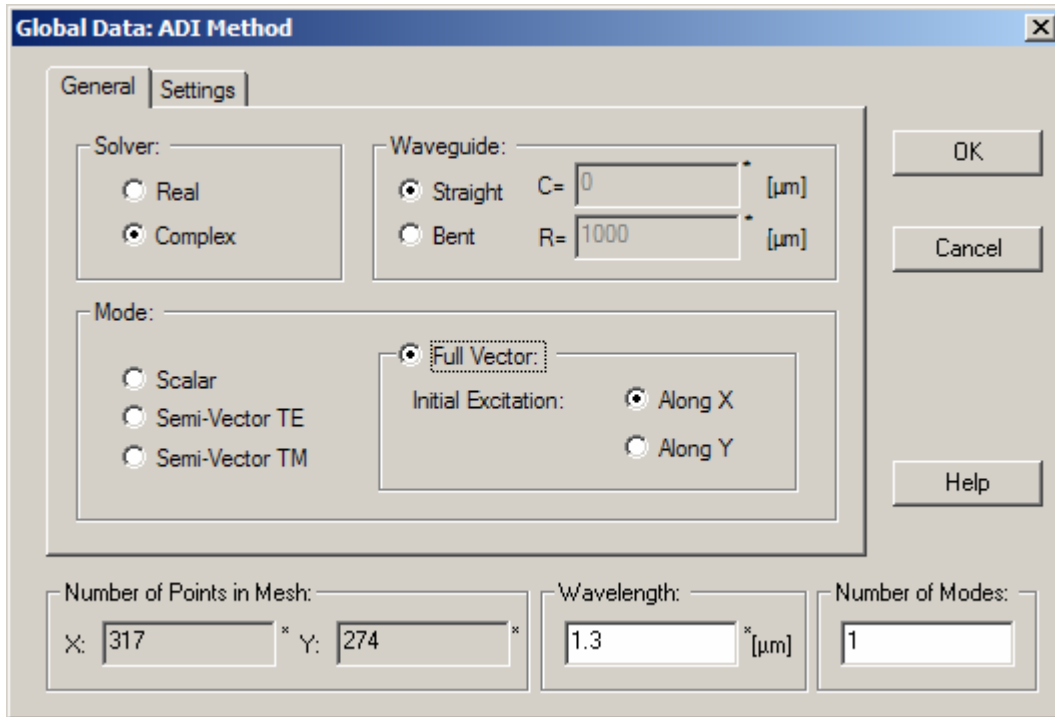

Figure 13 Global data: ADI Method dialog box
- 4 Click **Simulation** menu and select **ADI Method** under **Global Parameters**. **Global Data:ADI Method** dialog appears ( see Figure 13)